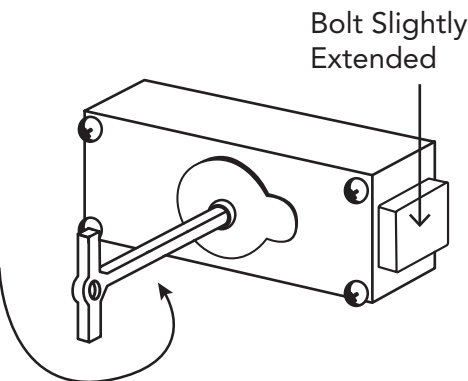

FIG. 8
9. Turn both keys back toward the bolt so that the key slots are pointing away from the hinges. (Guard key cannot be turned until customer key is turned back in this step.) (Figure 8)